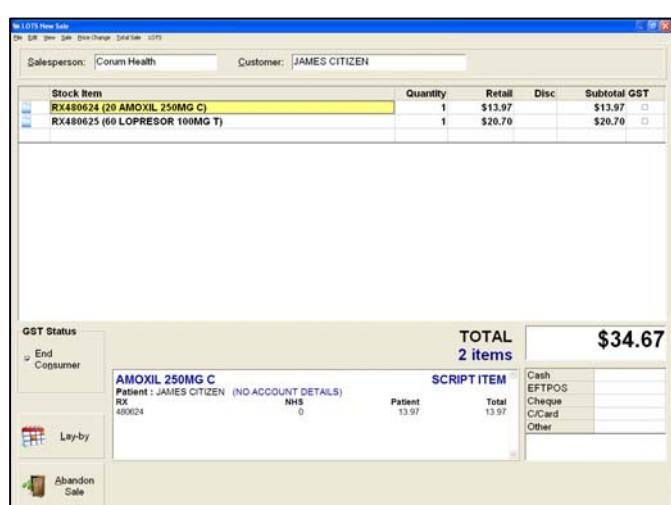

Figure 37
5. The scripts will display within the 'New Sale' screen (as shown in Figure 37).